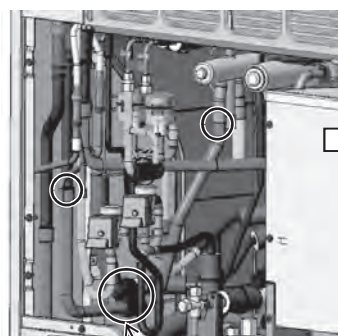

Figure 23
- (24B) Mount four-way valve (21S4b) to the pipe below four-way valve (21S4b) and in the middle. A total of five areas require brazing, including the area indicated in (23B) and the areas indicated in Figure 23. Mount four-way valve (21S4b) horizontal to four-way valve (21S4a) as shown in (15A).